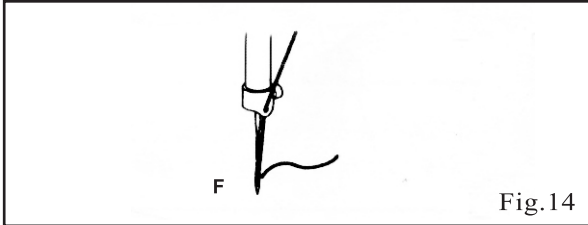

Fig.14
- 2). As Fig.14, thread form forward to back.